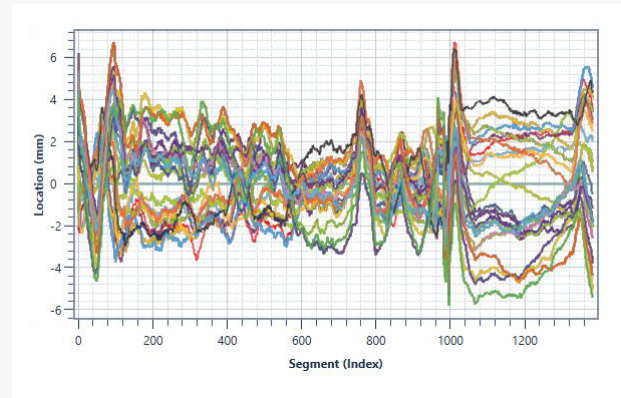

Figure 3: The above is an example of how the Sciometric system allows you to visualize bead location by region using digital process signatures.
- Bead location by region (Figure 3)